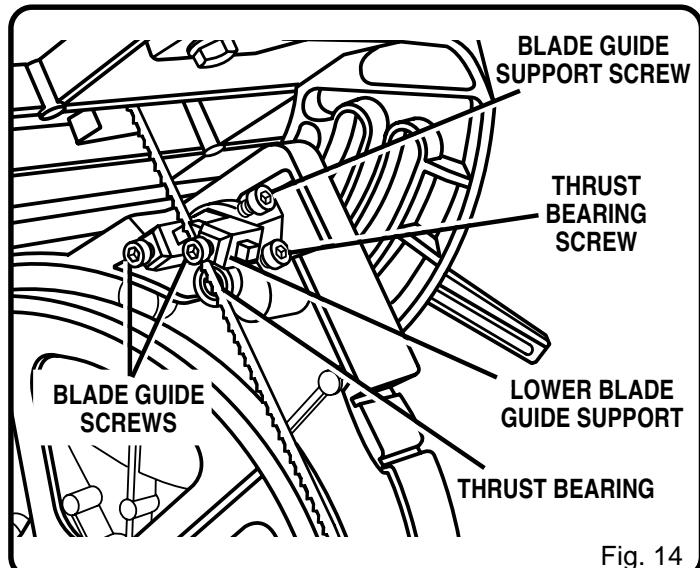

Fig. 14
**Note:** The lower blade guide support screw is the top screw located on the right of the saw housing under the table. See Figure 14.
- Repeat this procedure on the lower blade guides located under the saw table. See Figure 14.